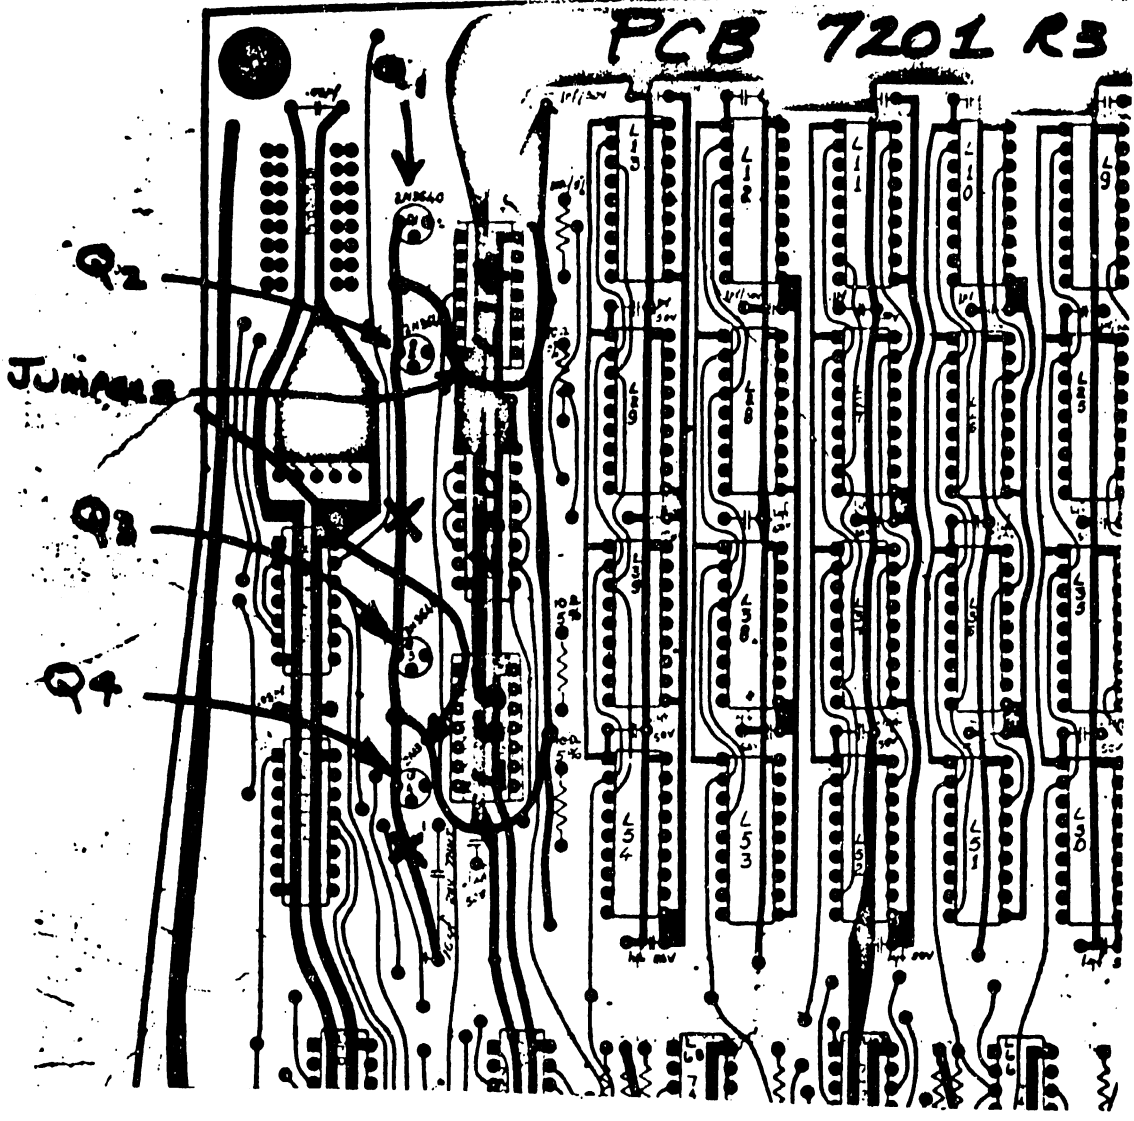

FIGURE 5-27
- 1) Cut +12V etch to the left of L30. See Figure 5-27.